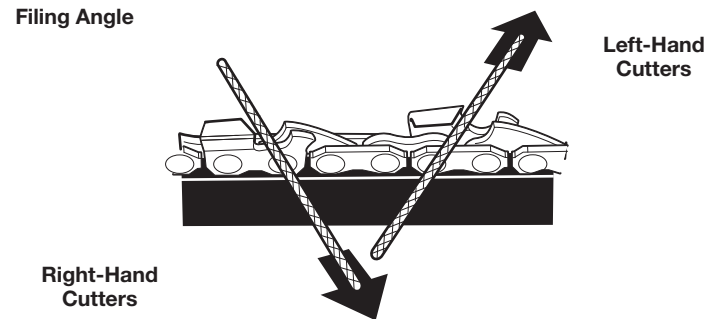

Fig. 32
- File toward the front corner of the cutter (Fig. 32). Lift the file away from the cutter at the end of the forward stroke. Only file on the forward stroke.
- File all the left-hand cutters in one direction (Fig. 32). Then move to the other side of the saw chain and file all of the right-hand cutters in the opposite direction (Fig. 32).